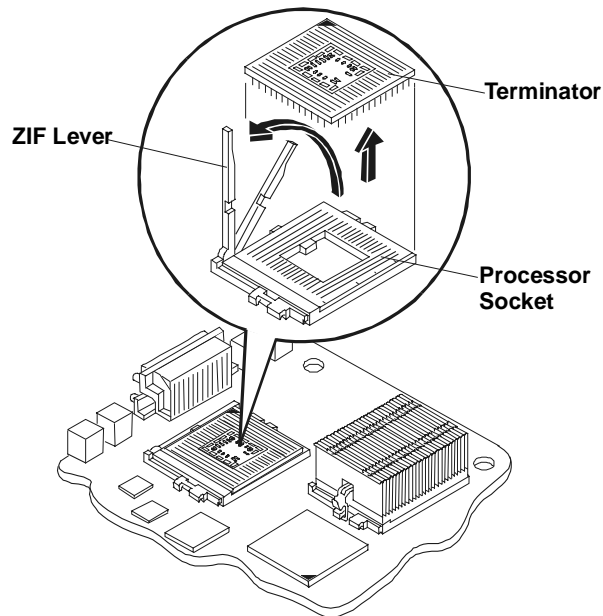

Figure 6-2. Removing the Terminator
7. Open the ZIF (Zero Insertion Force) lever. Then lift the terminator out of the socket and place it on anti-static surface or container. See Figure 6-2.
4. Open the ZIF lever to allow removal of the processor. See Figure 6-2.
6. If you are not replacing the processor with a new or replacement processor, install the terminator into the empty processor socket. See Figure 6-2.